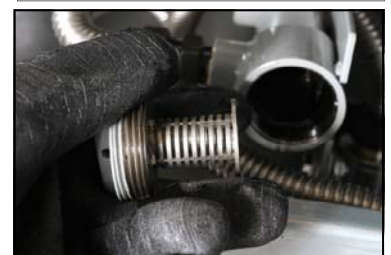

Figure 17
2. Use a small brush to clear debris. from the attached screen (**Figure 17**).